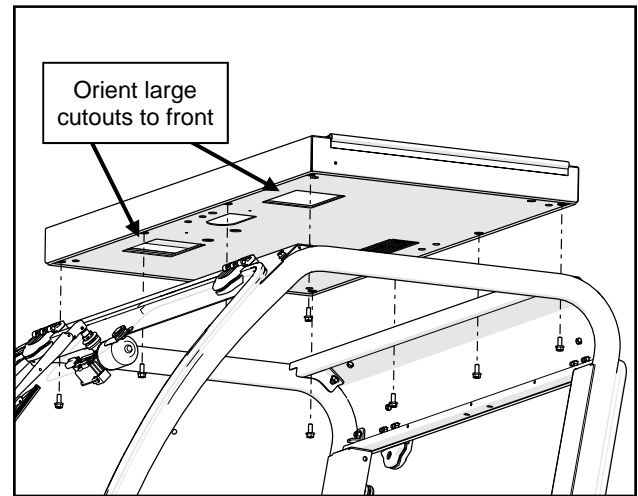

Fig. 2.1 (Install New Inner Roof Pan)
- 2.1** With assistance, lower the inner roof pan onto the top of the installed cab, with the two large square holes in the roof pan toward the front. Fasten the roof pan down as shown. Figure 2.1.